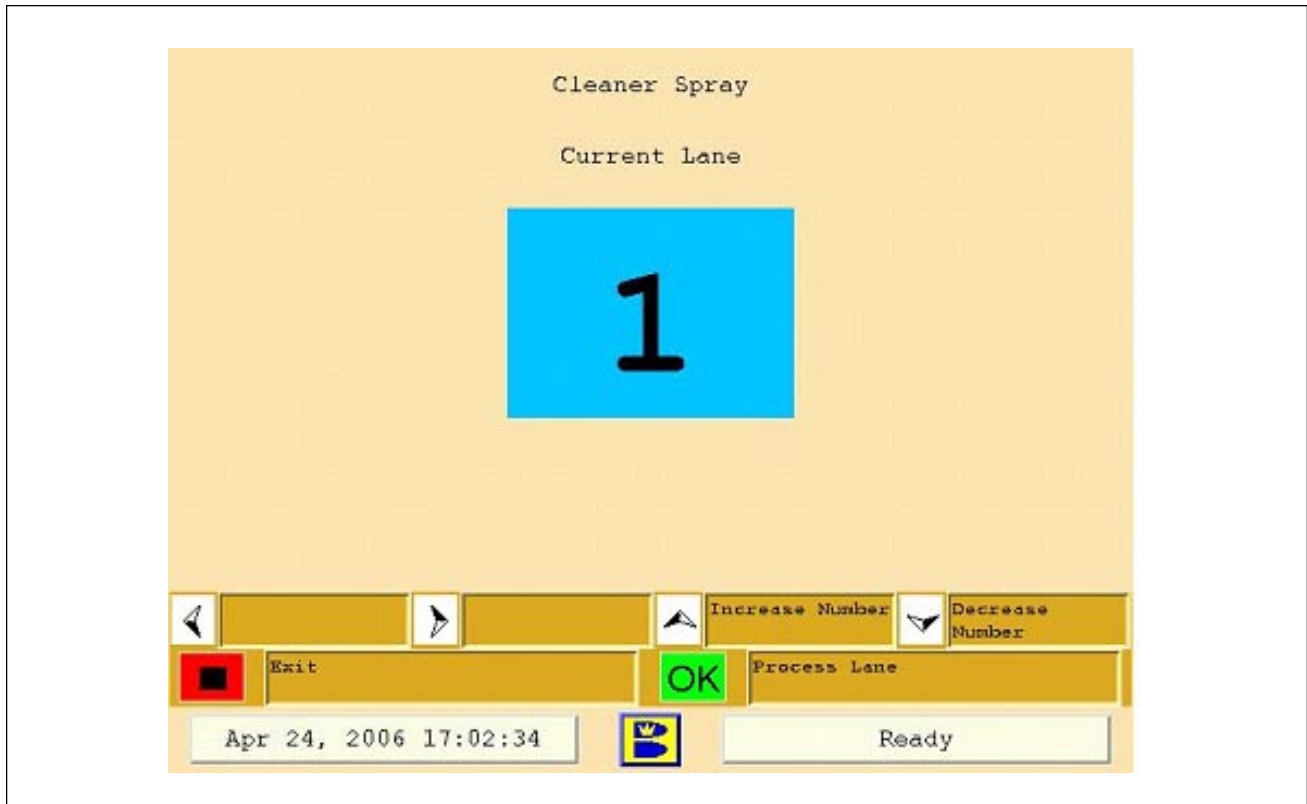

Figure 4-30. Cleaner Spray
4. Select the Cleaner Spray test, press “OK” and the following screen will appear (“Cleaner Spray” will appear at the top of the screen for the spray test). Refer to Figure 4-30.